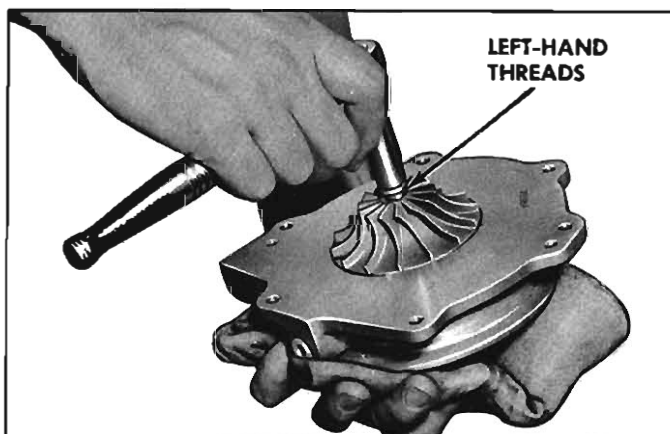

Fig. 42—Removing Impeller Nut
2. Hold the turbine wheel blades with a cloth and remove the self-locking nut (LEFT HAND THREADS) from the impeller end of the turbine shaft by turning clockwise (fig. 42), then remove the impeller washer.